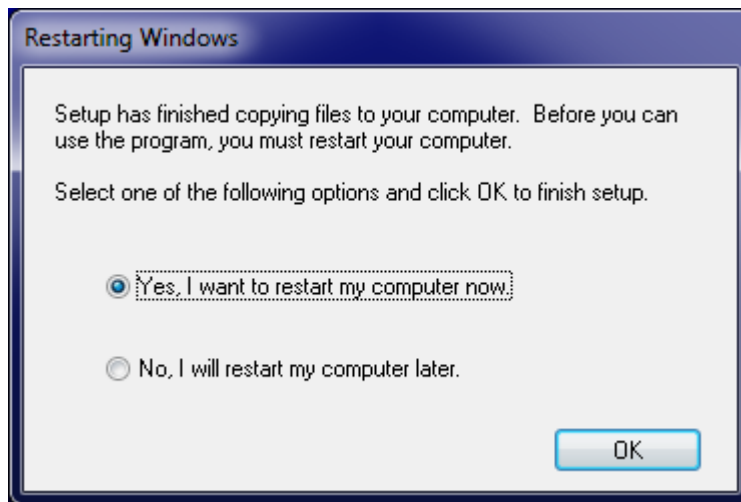

Figure 6-27: Audio Driver Installation Complete
Step 8: When the driver installation is complete, the screen in **Figure 6-27** appears.